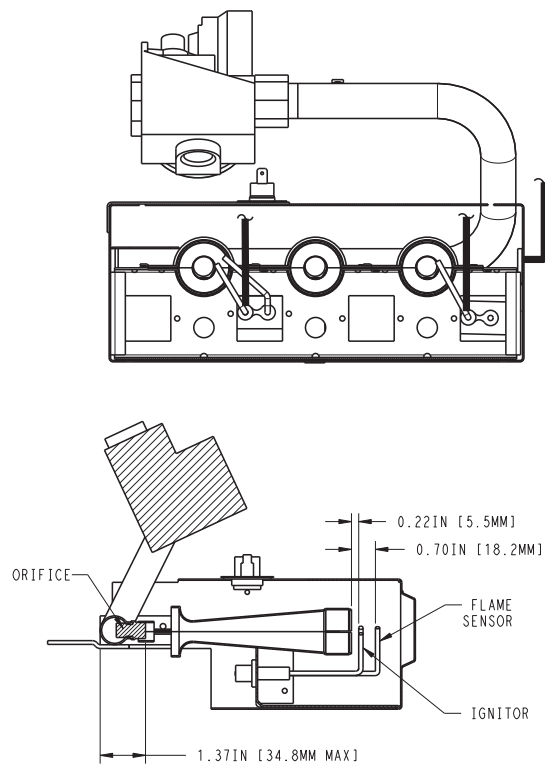

Fig. 3 - Single-Stage Igniter, Flame Sensor, Orifice/Main Burner Relationship
13. Remove the natural gas orifices from the manifold using a 9/16 in. wrench and install the correct propane gas orifices in the manifold (See Table 8 to select correct orifice size based on rated input. See Fig. 3 and 5 for orifice installation).
22. Verify igniter, flame sensor, orifice/main burner relationship prior to completing conversion. (See Fig. 3.) Partially slide burner rack assembly into unit.